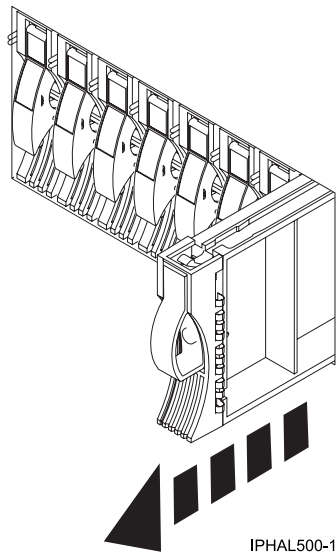

Figure 11. Removing a disk drive filler from model
- a. Pull the disk drive filler from the slot as shown in Figure 11 on page 15.